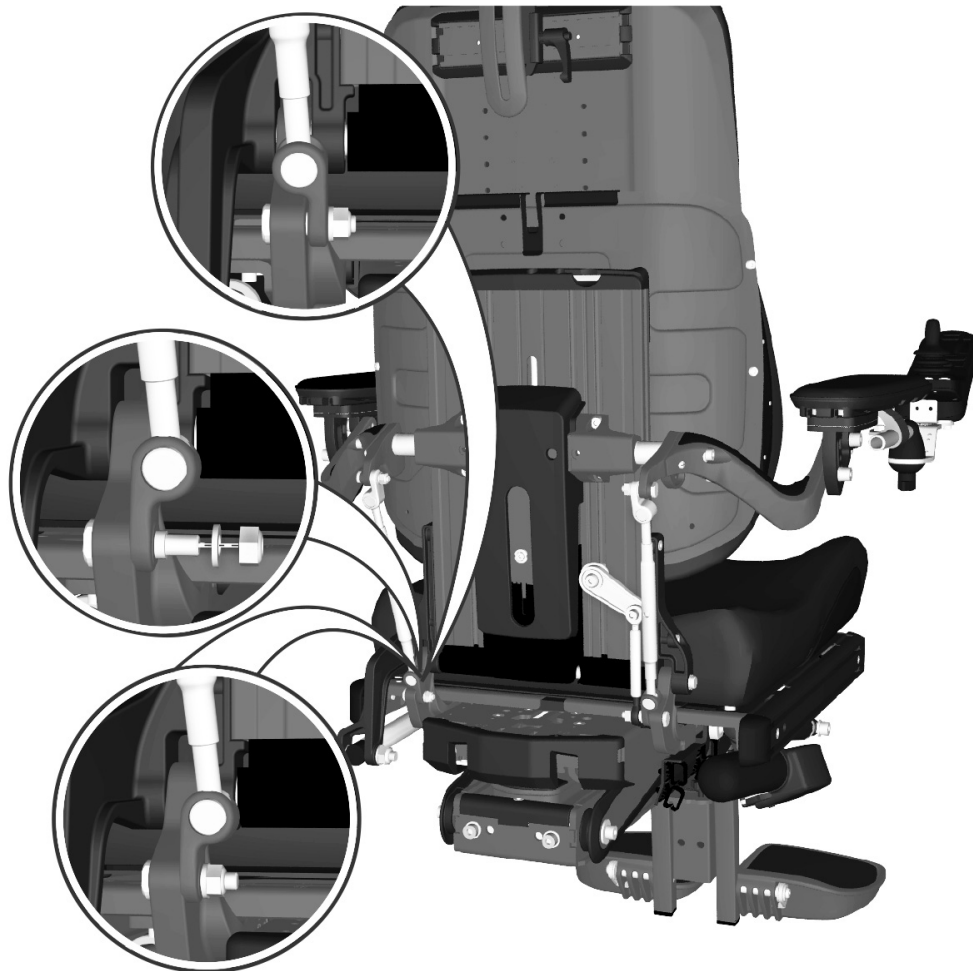

Figure 257. Turn the bracket 180° so the adjustment bar is closer to the centre of the seat.
1. Remove the lower bracket of the adjustment bar, which is secured with a screw, washer and nut. See fig. 257(1).
2. Turn the bracket 180° so the adjustment bar is closer to the center of the seat. See fig. 257(2).
3. Refit the lower bracket of the adjustment bar in its new position using the screw, washer and nut. See fig. 257(3).